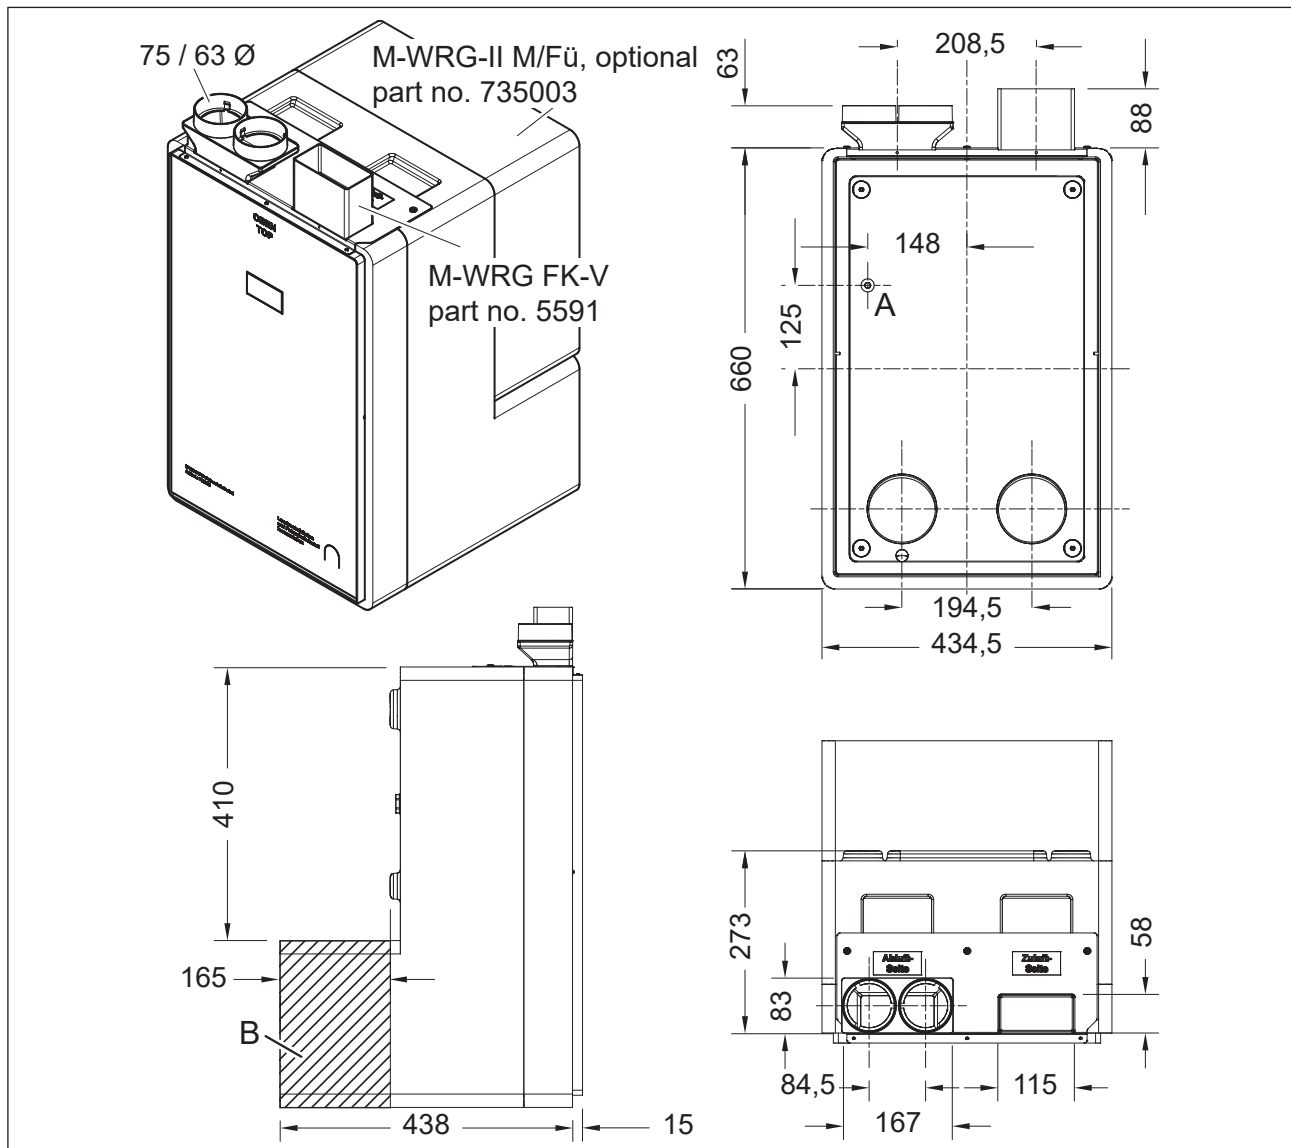

Fig. 8: Dimensions of the installation kit with optional filler piece in millimetres
- B The installation kit can be shortened by up to 165 mm (to no less than 273 mm). Two flat ductwork connections **or** two flexible pipe connections **or** one flat ductwork connection and one flexible pipe connection may be used in the extract air and supply air openings. A configuration with flat ductwork (FK) and flexible pipe connection (diameter of 75 / 63 mm) was used in Fig. 8 to illustrate the dimensioning of the flat ductwork and flexible pipe connections.